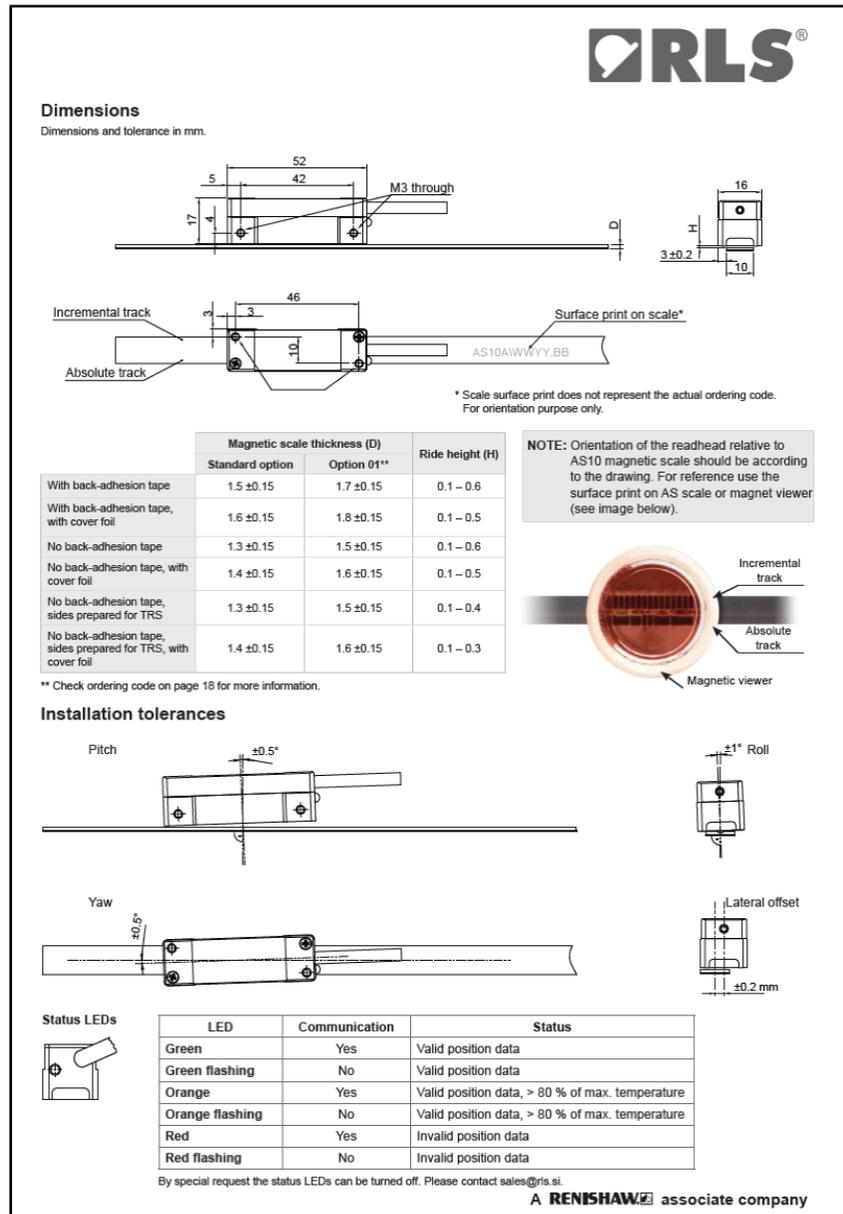

Figure 3 –Renishaw LA11 absolute encoder ride height specification and readhead Status LEDs
The status light indication colors are near the bottom of Figure 3. For completeness, the readhead status LED should be observed over the full range of Exlar actuator travel. Note: if the LED is solid on (not flashing), then the readhead is in communication with the Galil RIO, and the status will be in keywords **k1dm3saf.SE0** (Arm A) and **k1dm3saf.SE1** (Arm B):
The LA11 readhead position tolerances with respect to the magnetic scale are shown in Figure 3.
- 4.10. Use plastic shim stock to set the position of the readhead relative to the magnetic tape. Gap should be between 0.1mm and 0.4mm as indicated in Figure 3 (no back adhesion tape and track system option)
- 4.12. Recheck gap to make sure it is as specified in Figure 3. May want to test at both ends of travel or view status light over full range of travel.